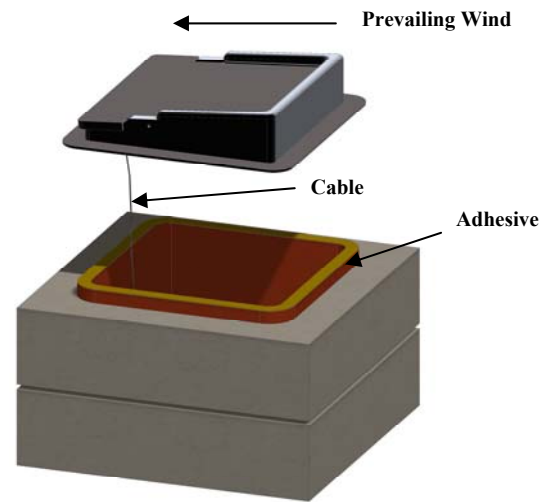

Figure 29. Install Top-Mount Damper
A. If installing a damper with this model Stone Age fireplace, use a top-mount damper, and follow the instructions included with the damper. Properly orient the taller side of the damper with the prevailing winds in your area. See Figure 29.